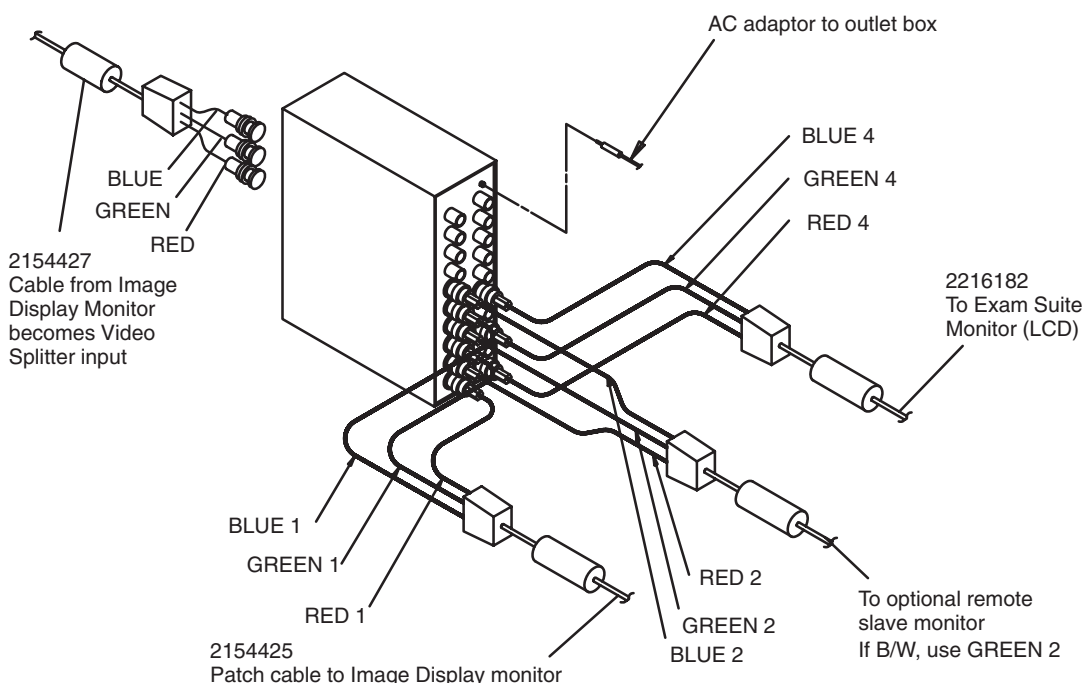

Figure 2-6 Attach the Cables to the Video Splitter
- 4.) Attach the video cables you removed from the Image Monitor to the video input side of the 4-way splitter. Refer to Figure 2-6.